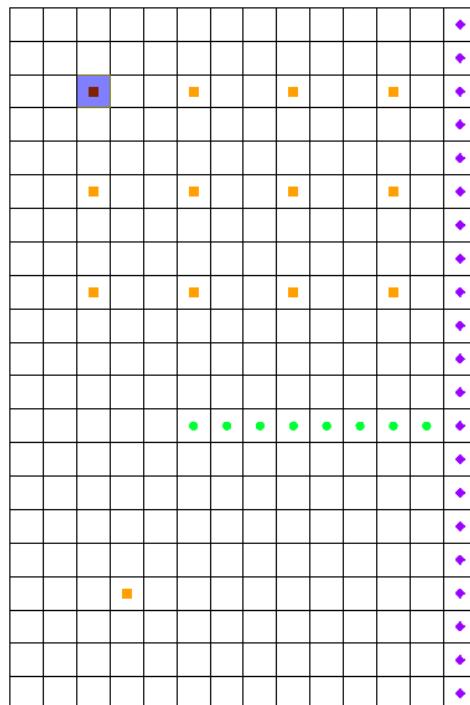

Figure 7 Selected MNW2 well cell
- Using the **Select Cells**  tool, select the cell in row 3, column 3. This cell contains a well (highlighted in Figure 7).